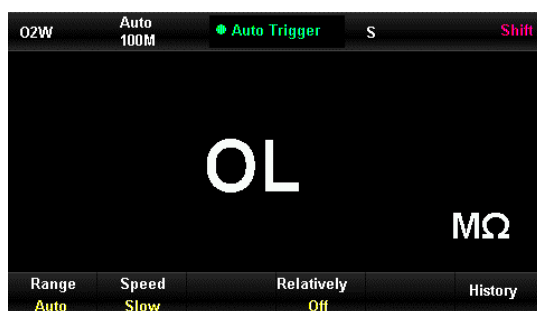

Figure 2-13 Interface 2-wire resistance measurement
- 1) Press  button to enter interface of 2-wire resistance measurement as Figure 2-13.